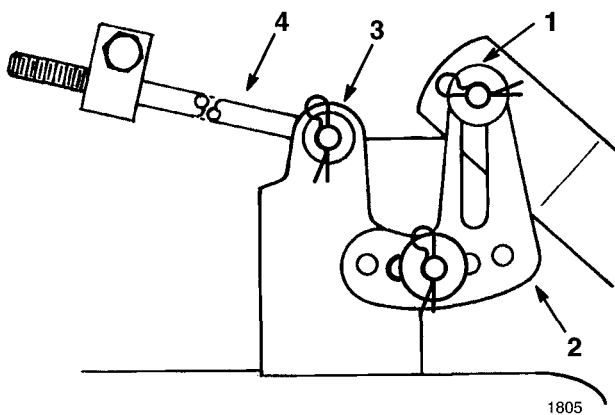

Figure 37
- Remove the hair pin cotter and washer at the top of the mower leveling bracket (Fig. 37). Now slide the bracket off the mounting pin. Repeat this step on the opposite side of the mower.
- Remove the hair pin cotter and washer from the end of the long rod (Fig. 37). Now slide the rod out of the mower mount. Repeat this step on the opposite side of the mower.